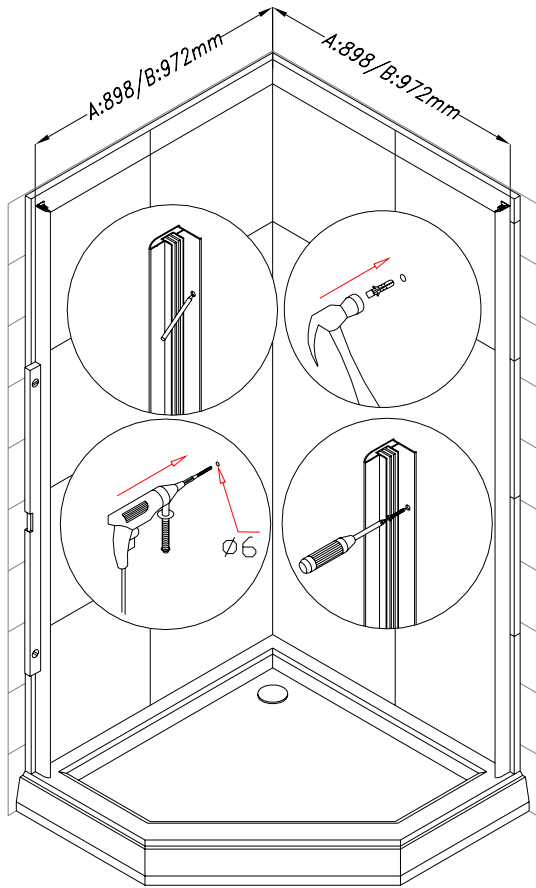

Fig 1
1. Start installation from either wall. Locate the **L-shape wall profile (1)** from the package then place it vertically above the tray 35 ½" or 38 ¼" (depending on size of your enclosure: refer to Diagram 1) from the corner to the external edge of the profile depending on the model. Using a level, adjust the L-shaped profile upright, then, use predrilled into aluminum profile holes to put on marks for drilling. Now drill the holes and insert the **wall anchors (15)** into the hole. Using **4X30 round head self-tapping screw (12)** to attach the Wall profile to the wall (fig 1).